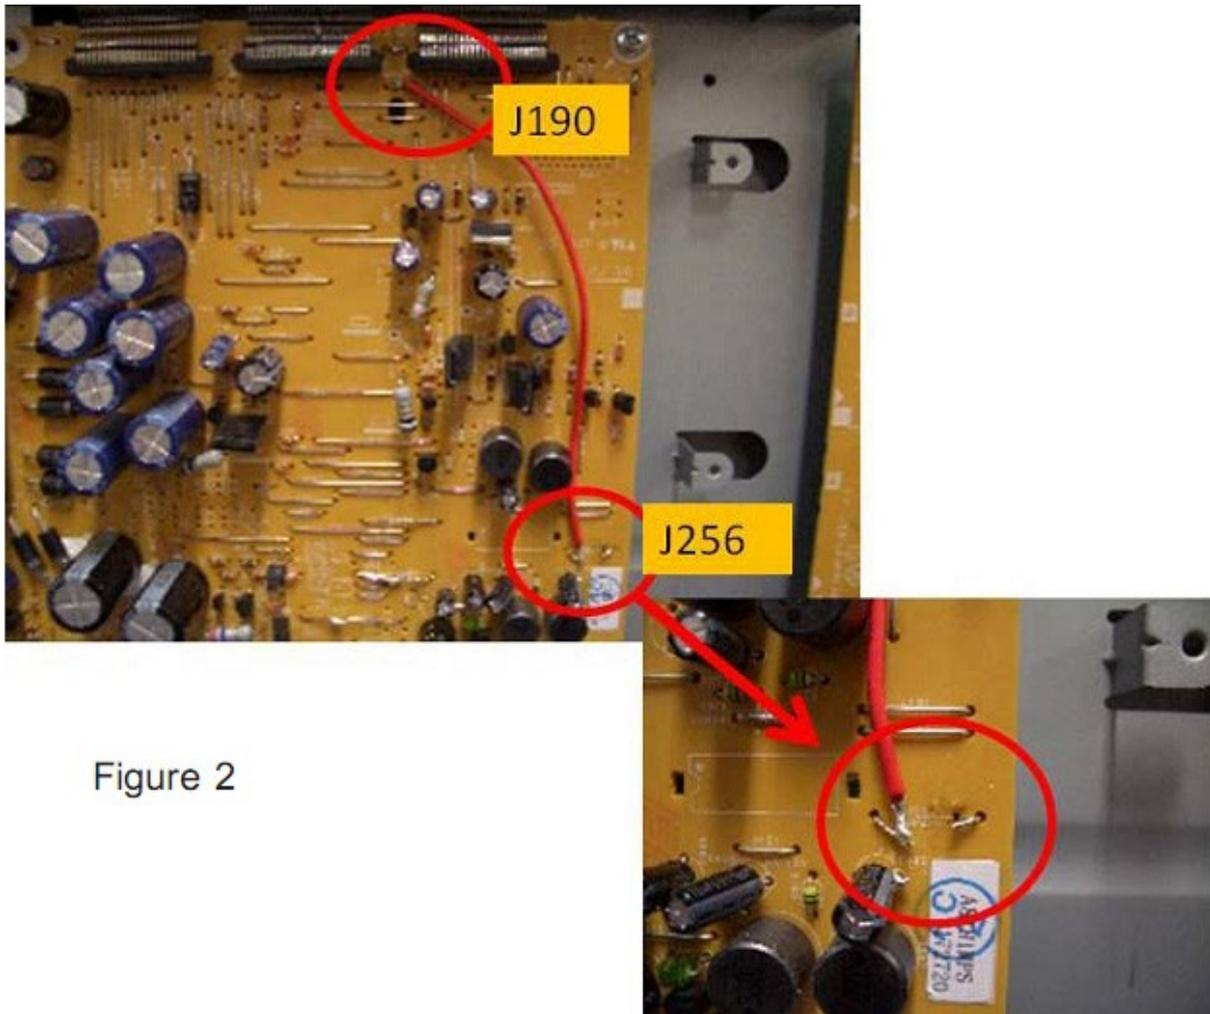

Figure 2
3. Solder a wire (about 140mm AWG20) from J190 to J256. On J256, solder the jumper on the Audio Amplifier (IC800) side as shown in Figure 2.